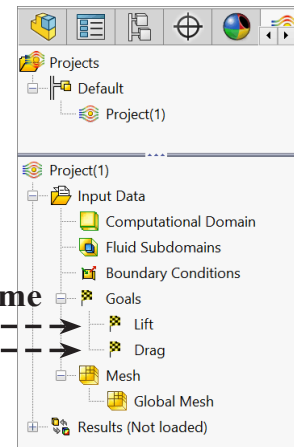

Fig. 13
Step 4. Rename the goals to **Lift** and **Drag**. To rename, click **Force (Y)**, press **F2** key and key-in **Lift**, **Fig. 13**. Rename **Force (Z)** to **Drag**.